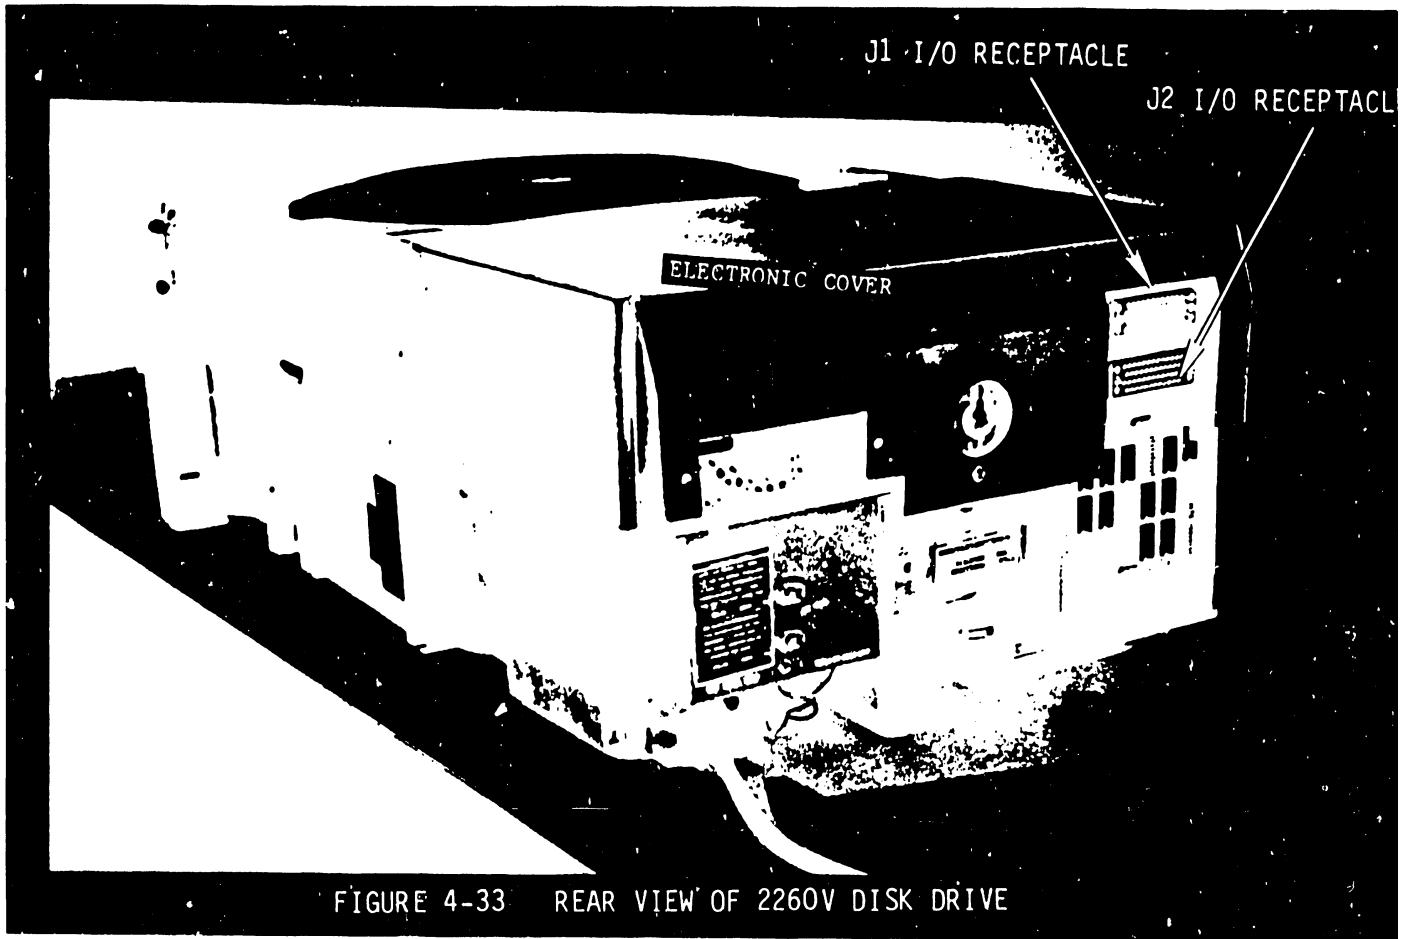

FIGURE 4-33 REAR VIEW OF 2260V DISK DRIVE
- B. Verify that all logic cards are firmly seated in logic card cage assembly. To gain access to the logic cards, first lift the disk drive cabinet cover, and then remove the electronics cover, which is mounted with three Phillips screws (Figure 4-33).